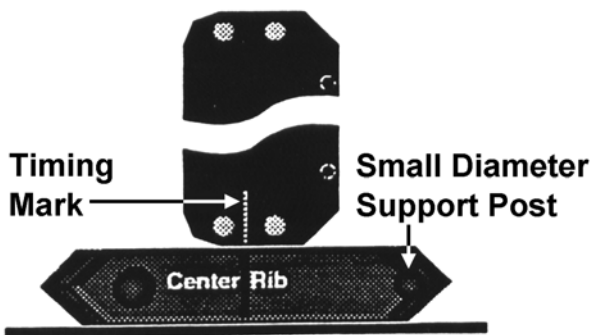

Figure 7-1. Initial Shuttle Position for Shuttle Timing Procedure
1. Orient the case top so that the end of the island with the timing mark cut into it is closest to you, as shown in Figure 7-1.